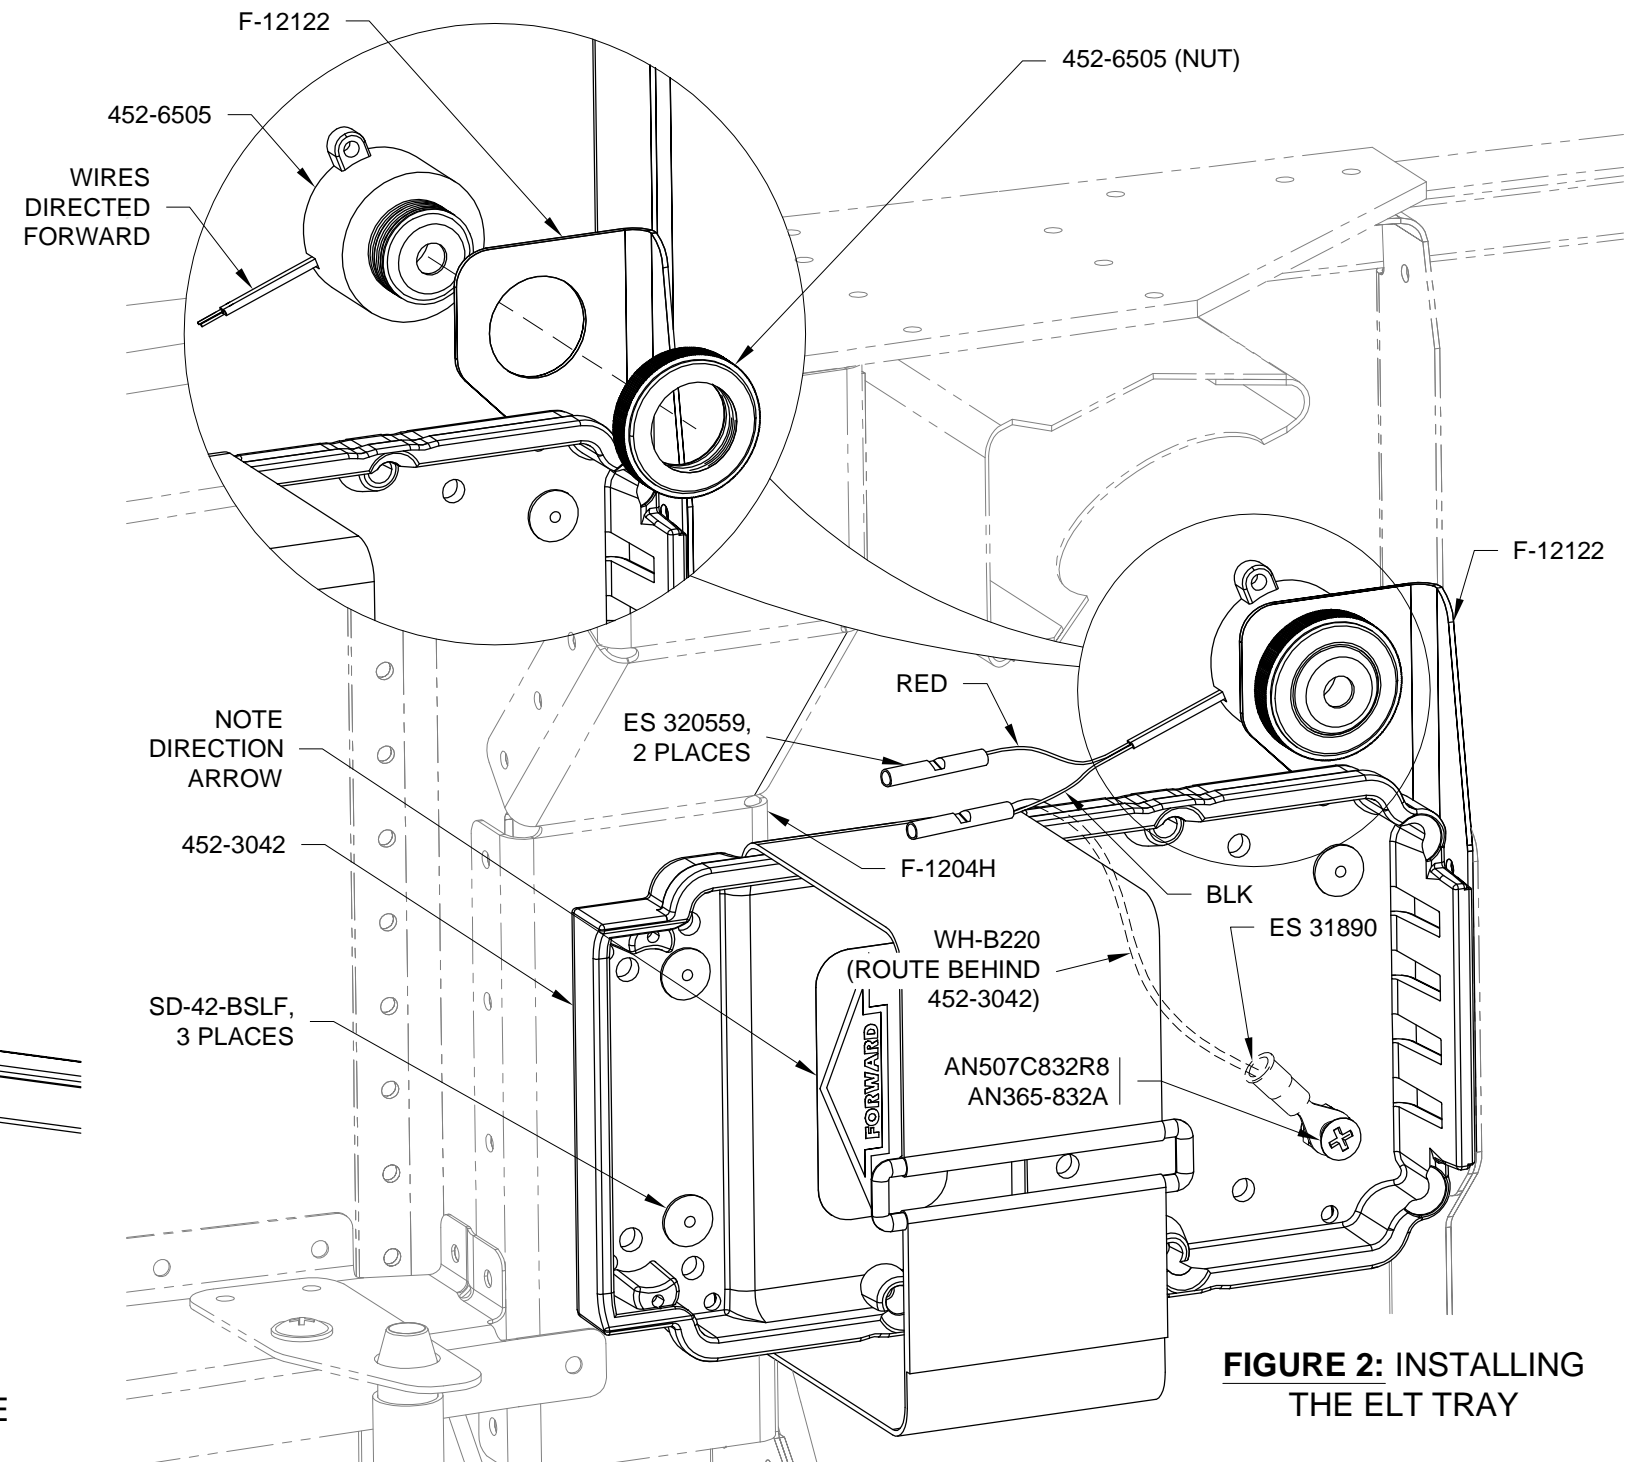

FIGURE 2: INSTALLING THE ELT TRAY
Step 4: Cleco the 452-3042 Mount Tray to the F-12122 ELT Bracket in Figure 2. Match-Drill #30 the holes shown filled with rivets in Figure 2 into the F-1204H Bulkhead Cap using the mount tray as a drill guide. Remove the mount tray and drill chips, then deburr the hole from below.
Step 5: Rivet the 452-3042 Mount Tray to the F-12122 ELT Bracket and F-1204H Bulkhead Cap using the hardware called out in Figure 2.
Step 6: Strip the ends of the wires coming from the 452-6505 Buzzer. Crimp a butt splice on to the red wire. Attach the buzzer to the F-12122 ELT Bracket, as shown in Figure 2, with the wires directed forward.
Step 7: Make the WH-B220 ELT Ground Wire by cutting a length of 22 gauge wire 7 inches long. Strip both ends. Crimp a ring terminal on one end. Crimp the other end of the ELT ground wire and the black wire coming from the 452-6505 Buzzer together into one end of a butt splice. See Figure 2.
Step 8: Final-Drill #19 the lower aft 452-3042 Mount Tray attach point. Deburr this hole. Route the WH-B220 ELT Ground Wire behind the 452-3042 Mount Tray then fasten the ring terminal to the hole using the hardware called out in Figure 2.